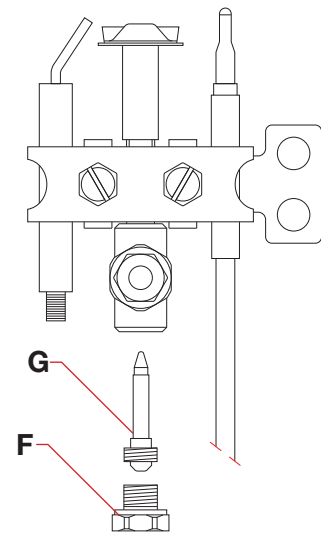

Fig.9.
4. Unscrew the nozzle 'B' (Fig.9) and replace it with the one for the gas type selected based on the indications of the technical data plate (the nozzles are marked in hundredths of a millimetre)
1. Loosen the fixing screw 'C' (Fig.9) on the primary air regulation bush 'D' (Fig.9)
2. Position the bush 'D' (Fig.9) at the distance specified "A" for the gas used, see page 8 / 2.1.3